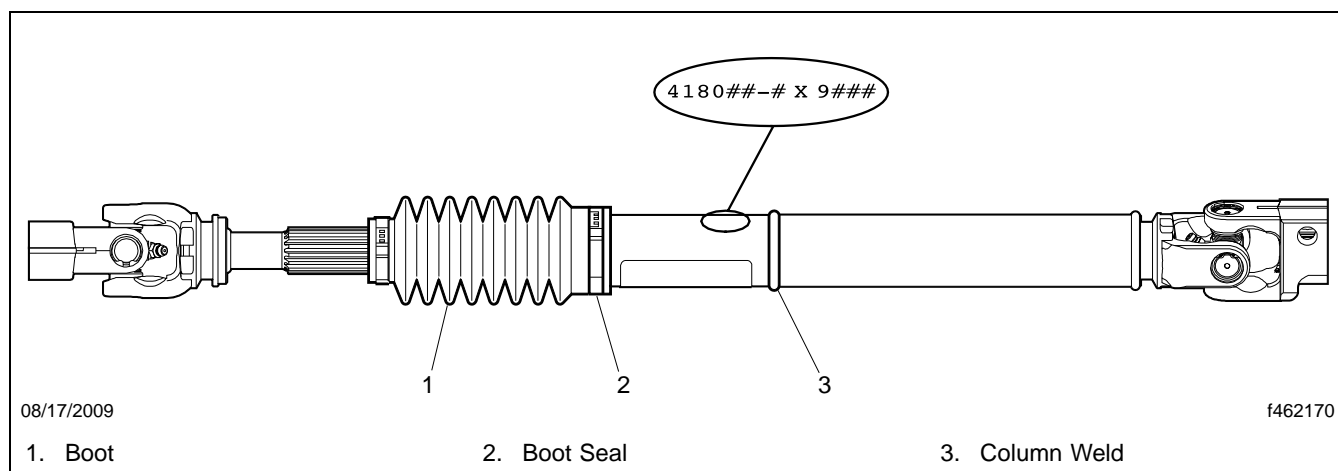

Fig. 1, TRW IGEN 3 Intermediate Shaft Part Number Location
3. Identify the intermediate steering shaft part number and date code, which are located on the intermediate shaft. See **Fig. 1**. An example of an intermediate shaft part number and date code is *4180##-# X 9###*.
4. If the intermediate shaft is not an IGEN 3 model (as shown in **Fig. 1**), no further action is necessary.